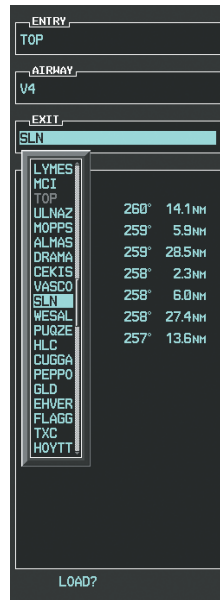

Figure 5-110 List of Available Exits for V4
h) Press the **ENT** Key. The list of available exits for V4 is now displayed as in Figure 5-110.
- i) If necessary, turn either **FMS** Knob to select the desired exit. In this case Salina VOR (SLN) is selected as in Figure 5-110.